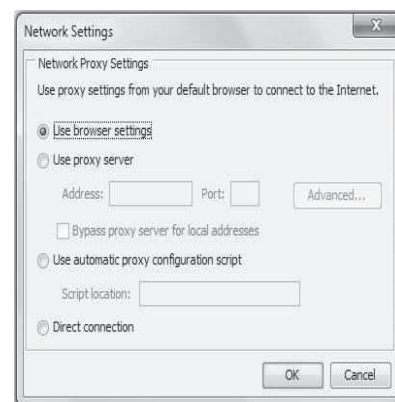

Fig. 67 — Network Settings
- Network settings: In the Java Control Panel, click Network Settings. Select a direct connection to bypass the proxy server or select the automatic configuration script. See Fig. 67.